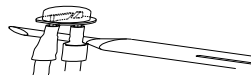

Fig. 7
- (ii) The heat shrinking can be carried out with the cooler part of a soldering iron tip as shown in Fig. 7.